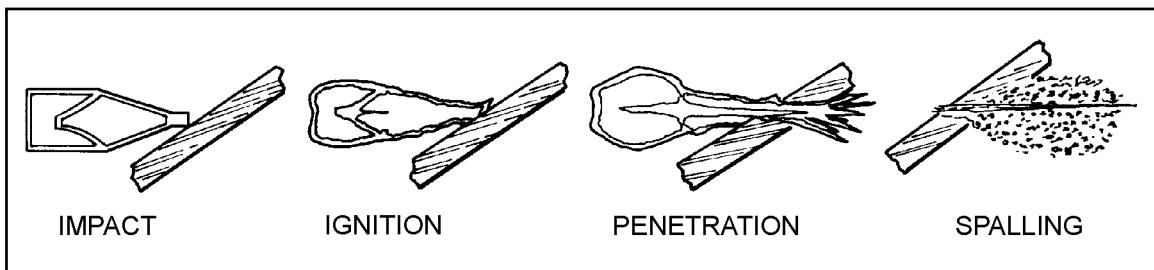

Figure 2-3. Effects of M72-series LAW warhead.
a. **Description.** The 66-mm HEAT rocket warhead consists of a tapered, thin-gauge steel body. When it explodes, the force and heat of the explosive focus into a small but powerful gas jet. This directional jet penetrates the target and, if the target is a vehicle, sprays molten metal inside. If the jet hits an engine or ammunition, it may start a fire or cause an explosion. Figure 2-3 shows how the warhead penetrates 300 millimeters of rolled homogeneous steel armor.
- (1) **Impact.** The nose cone crushes; the impact sensor activates the fuze.
- (2) **Ignition.** The ogive crush switch activates the electric detonator. The booster detonates, initiating the main charge.
- (3) **Penetration.** The main charge fires and forces the warhead body liner into a directional gas jet that penetrates armor plate.
- (4) **After Armor Effects (Spalling).** The projectile fragments and incendiary effects produce blinding light and destroy the target's interior.